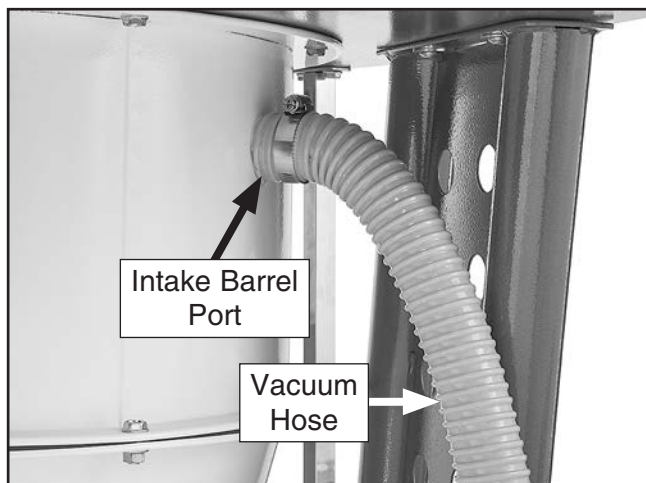

**Figure 6.** Pressure gauge mount placed on support leg (G0861 shown).
5. Remove (2) flange nuts from hex bolts on pressure gauge assembly (see **Figure 6**).
6. Spread jaws of pressure gauge mount just enough to slide mount over support leg near magnetic switch, as shown in **Figure 6**.